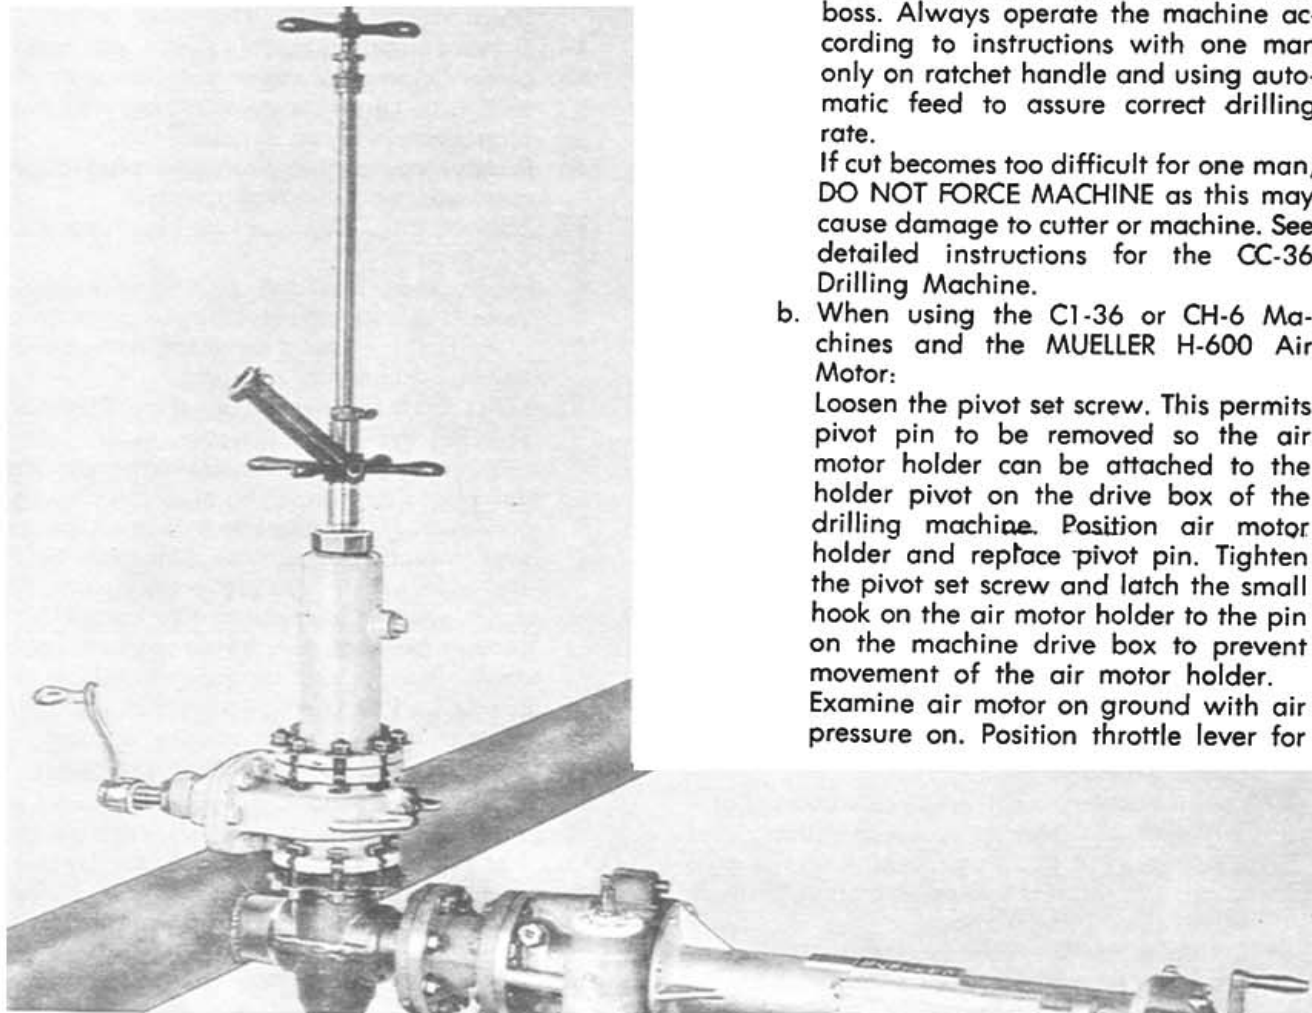

FIGURE 48
8. Attach stopping machine to gate valve. It is not necessary to use all the bolts at this point. **Figure 48**.
gasket in place between valve and stopping machine. See **Figure 48.**